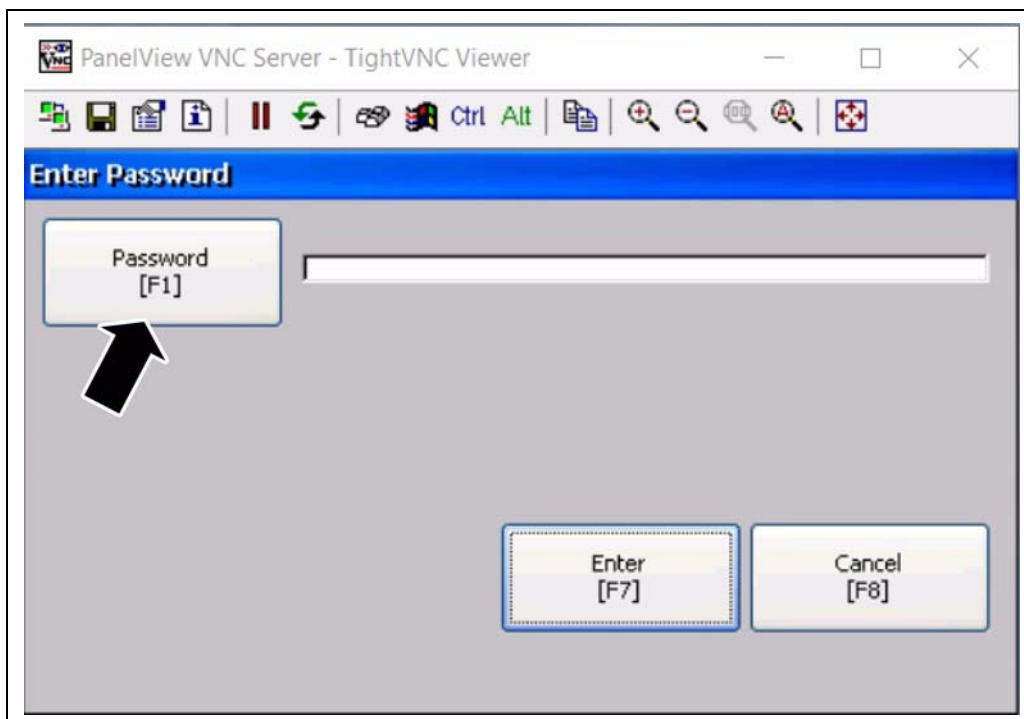

Figure 3D
2. Press the Password button to go to this screen. (See Figure 3D.)